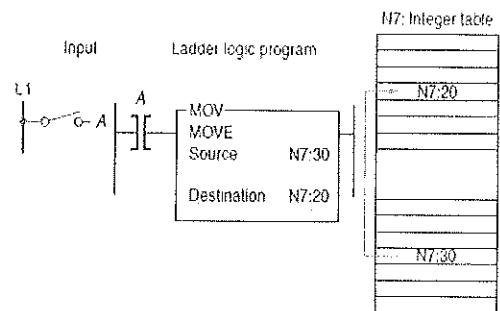

Figure 10-4 SLC 500 block-formatted move instruction.
**Ans.** Figure 10-4 shows an example of the MOV instruction. The operation of the program can be summarized as follows: